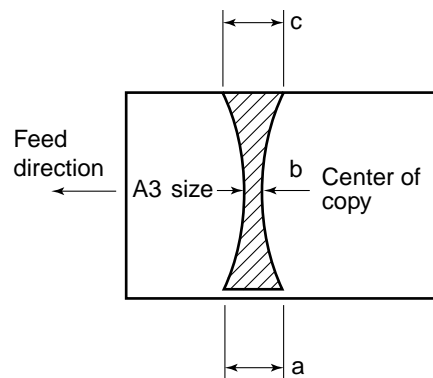

Figure 6-214
If the nip width is not as shown in Figure 6-214, turn the bolt to adjust it.
- 5) Measure the width of the toner portion which has a glossy surface, as shown in Figure 6-214.